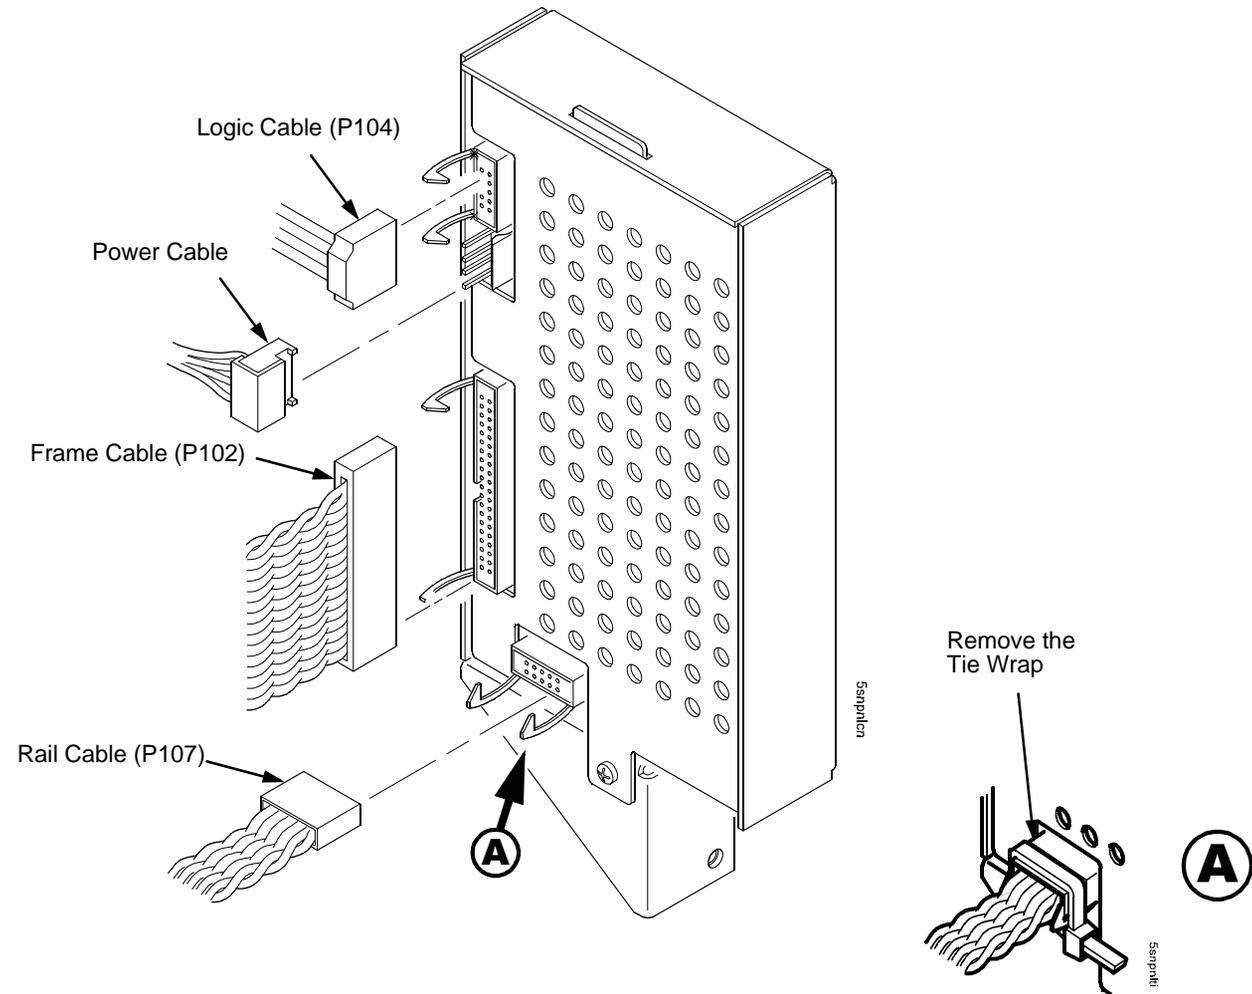

Figure 80. Removing Cables from the Stacker Control Panel
7. Remove four cables from the stacker control panel, and remove the stacker control panel. (Figure 80.)